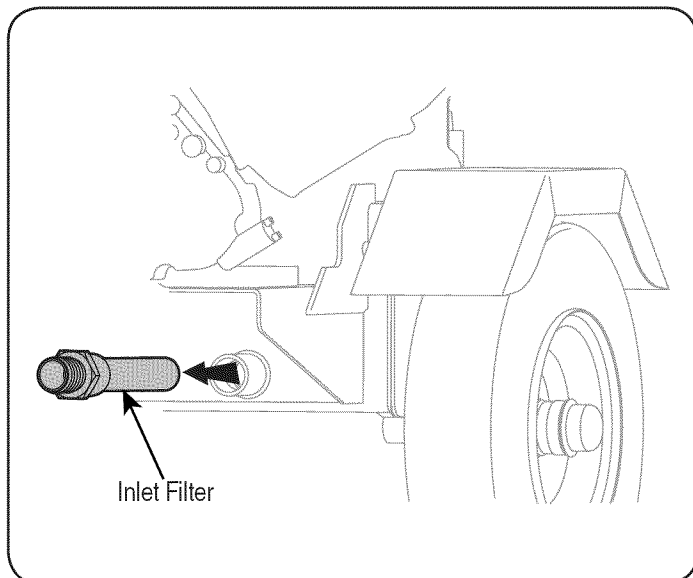

Figure 19
3. Carefully unthread the inlet filter and clean it with penetrating oil. See Figure 19.